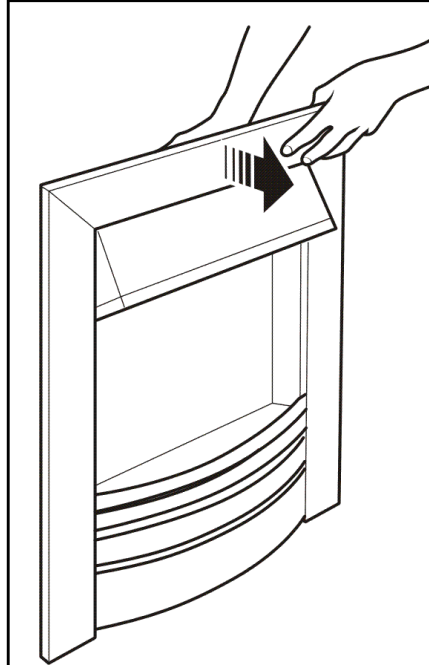

Figure 3. Removal of Adage and Ocean fascia.
1. Very strong magnets attach the fascia to the heater. Support the rear of the heater and gently pull the fascia forward (See figure 3).